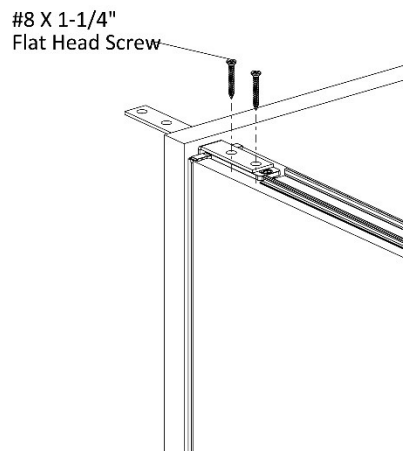

Figure 2
- 5. Drive two #8 X 1-1/4" Flat Head Screws through the holes in gallery panel top bracket into the standard panel, (Figure 2).